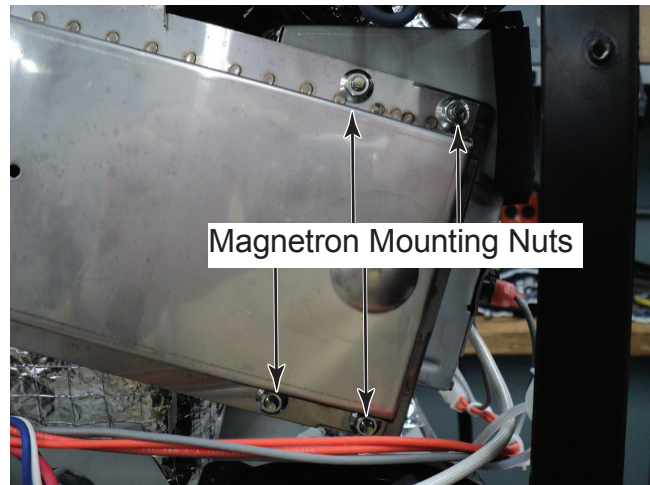

Figure 6
7. Remove magnetron mounting nuts and remove magnetron from waveguide and set on the side. (Figure 6).